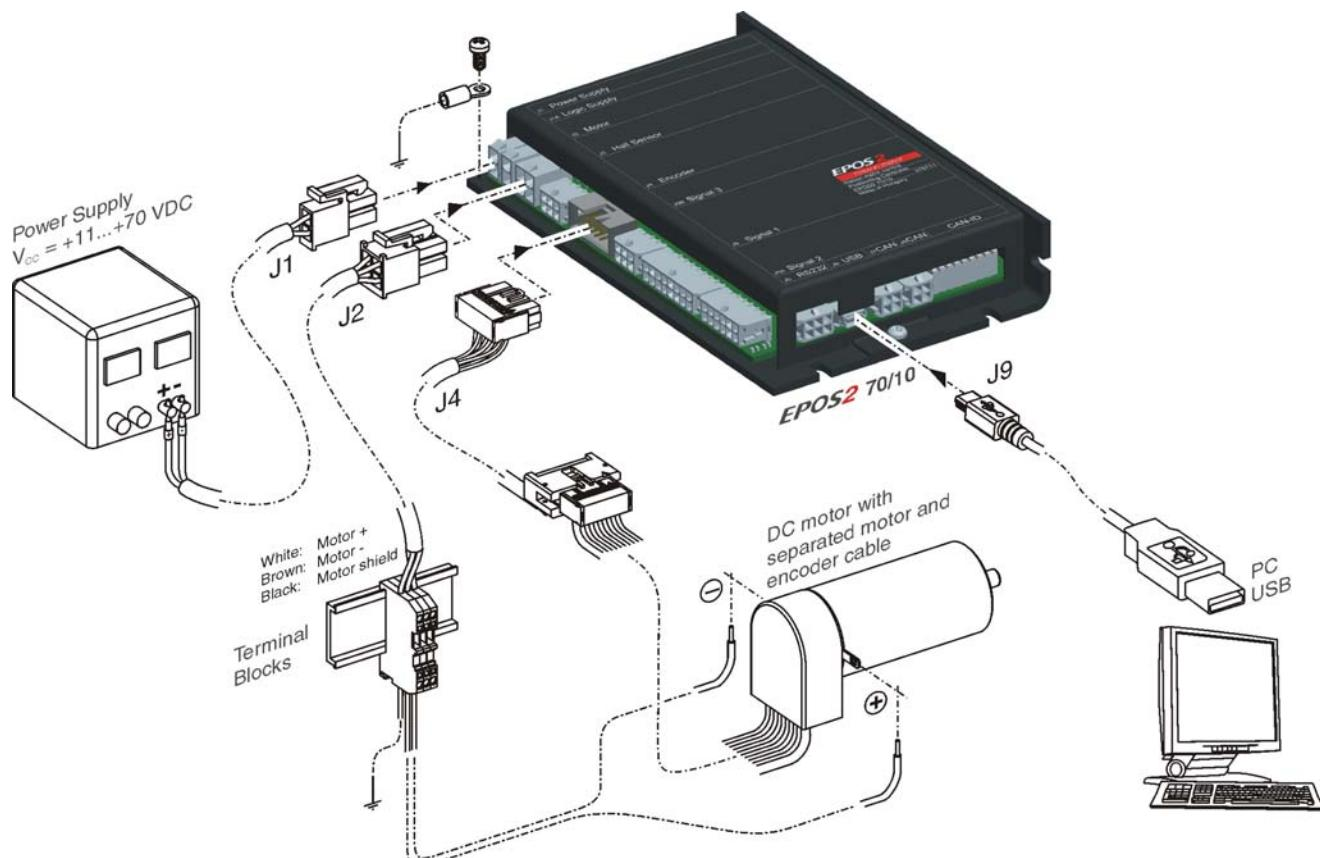

Figure 3-3 Minimum Wiring: maxon DC motor
- 2) Connect maxon cable assemblies (→Table 3-6 and Figure 3-3).